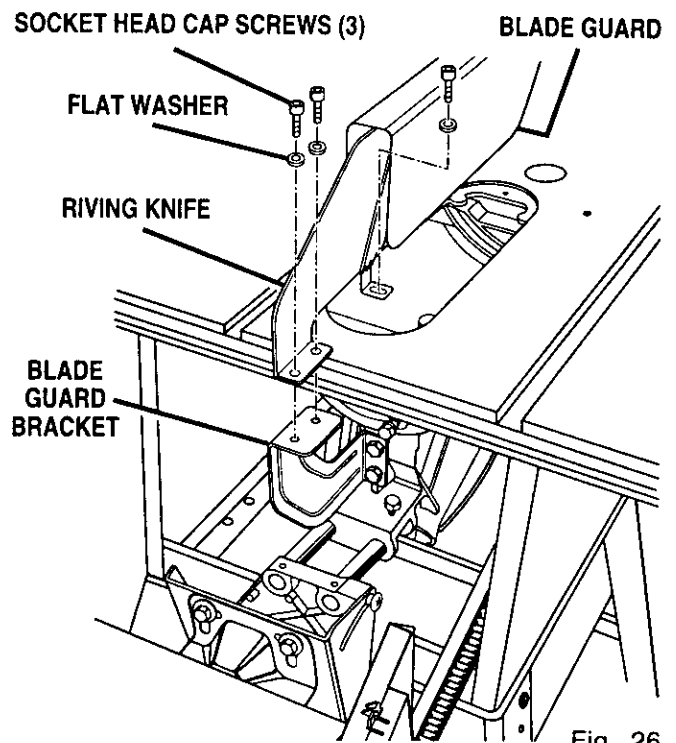

Fig. 26
- Put the blade guard assembly in place on the tabletop, aligning the screwholes in the riving knife to the holes in the blade guard bracket. Align the hole in the front of the riving knife base with screw hole in the cradle. See Figure 26.